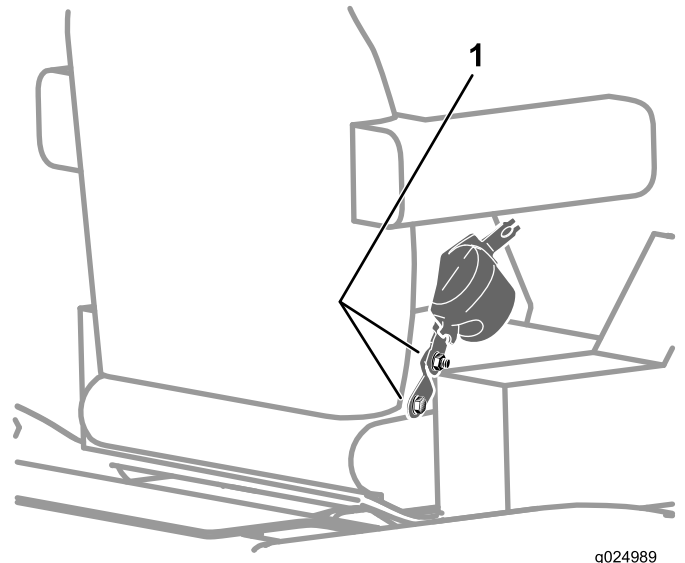

Figure 114
2. Check that the bolts and nuts that attach the seat-belt retractor and buckle to the seat are torqued to 47 to 61 N-m (35 to 45 in-lb); refer to Figure 114.